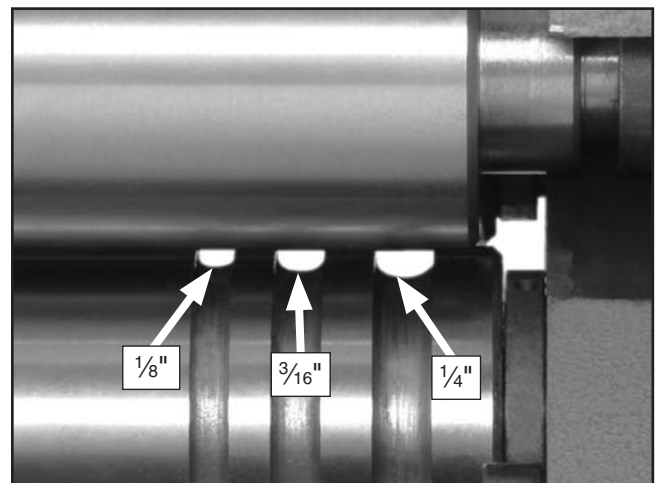

Figure 28. Wire grooves.
1. Place your workpiece into the smallest possible groove on the wheel. The three sizes are $\frac{1}{8}$ ", $\frac{3}{16}$ ", and $\frac{1}{4}$ " (**Figure 28**).